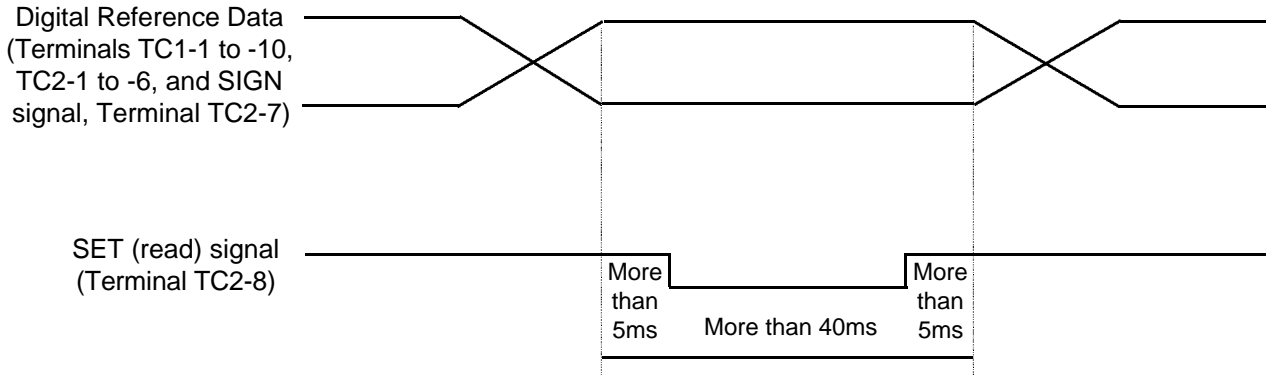

Figure 4. Timing of Reference Input
* SET (read) signal is the signal to read digital speed reference data. When reading, close between TC2-8 and TC2-9 by the timing shown in Figure 4.